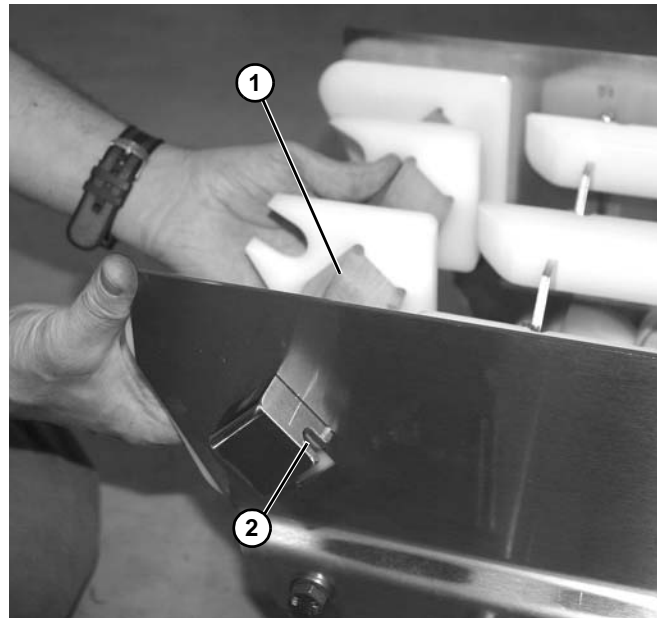

Figure 83
3. Lift up on support bar (Figure 83, item 1) so that slotted area (Figure 83, item 2) clears frame.